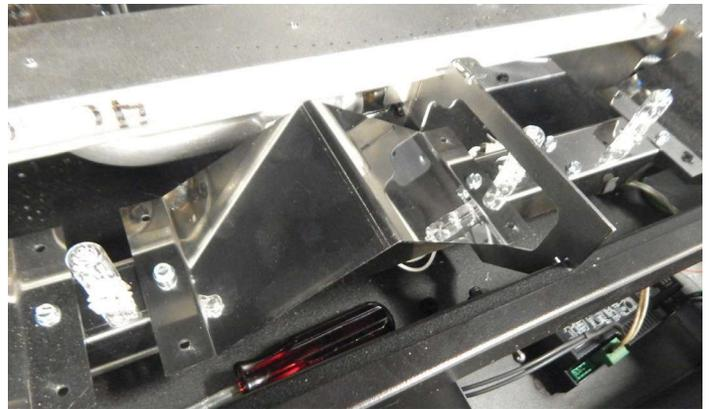

Figure 13
16. Install the (5) Halogen light bulbs into the Light bar sockets. When installing, take care not to touch the bulbs with your fingers directly, but use the protective plastic bulb packaging for protection from oils, etc. Take extra care when installing the bulbs. Do not force the bulbs into the sockets. See Figure 13.